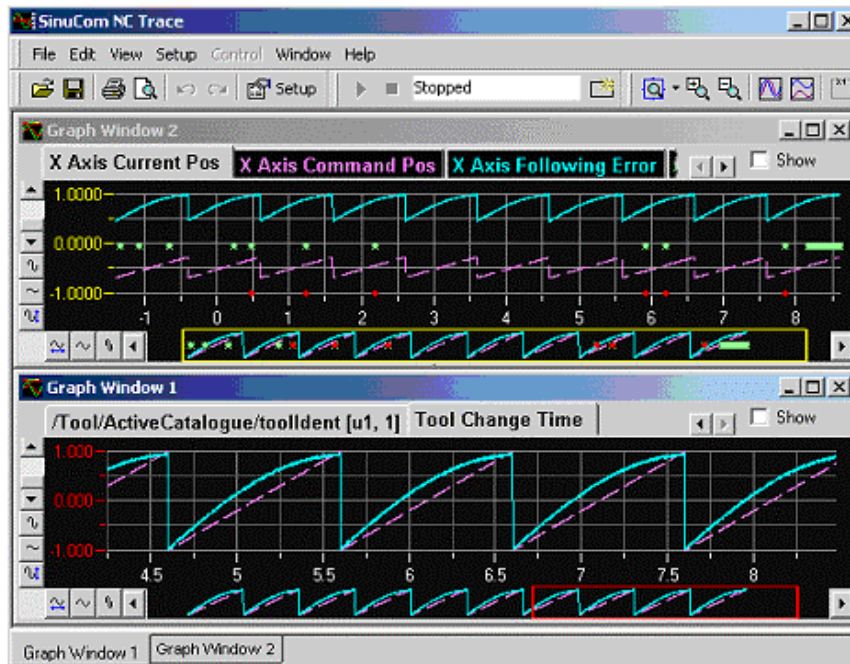

Bild 4-2 Multiple Graph Windows (tiled horizontally)
- **"No Waveforms Shown"** – All defined waveforms have had their "Show" checkbox unchecked, see Figure 4-2.
- The focus of the graph window determines which of the displayed waveforms is ready for manipulation. The focus can be changed from one waveform to another by clicking the associated colored tab, or by clicking the waveform itself. The colored tab can be configured to show either the waveform number, or the waveform description/name (as in "Graph Window 1" in Figure 4-2., above). The waveform that has focus is indicated in the colored tabs by a change in coloration..
- The horizontal scroll bar is shown as a miniature image of the entire waveform.(see Figure 4-2) This bar can be moved or dragged just like a standard Windows® scroll bar. Additionally, a rectangle is superimposed onto a portion of the bar which corresponds to the portion of the waveform that is being displayed. This rectangle can be stretched to change the horizontal scaling.
The Trace Main (Entry) Menu and its toolbars are shown in Figure 4-2 below. Items found in common MicroSoft Windows® toolbars are shown but are not described here. Annotated items are specific to Trace.